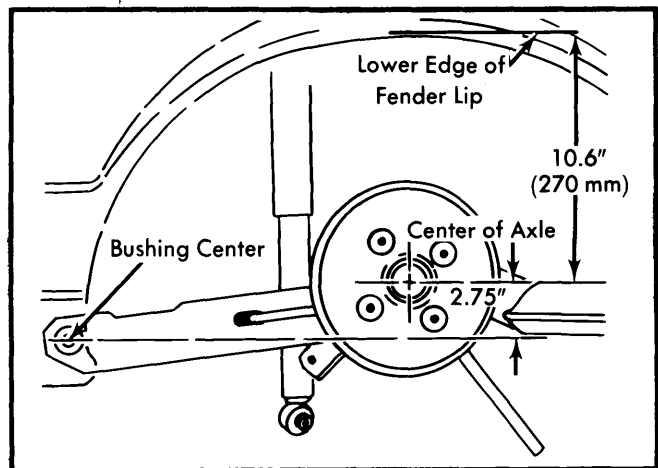

Fig. 2 Measurement Points for Installing Rear Axle Beam
2) Lift axle beam until center of axle (See Fig. 2) is 2.75" (70 mm) higher than center of bushing in trailing arm. Check distance between axle center to lower edge of fender lip. Distance should be 10.6" (270 mm). Tighten bolts.